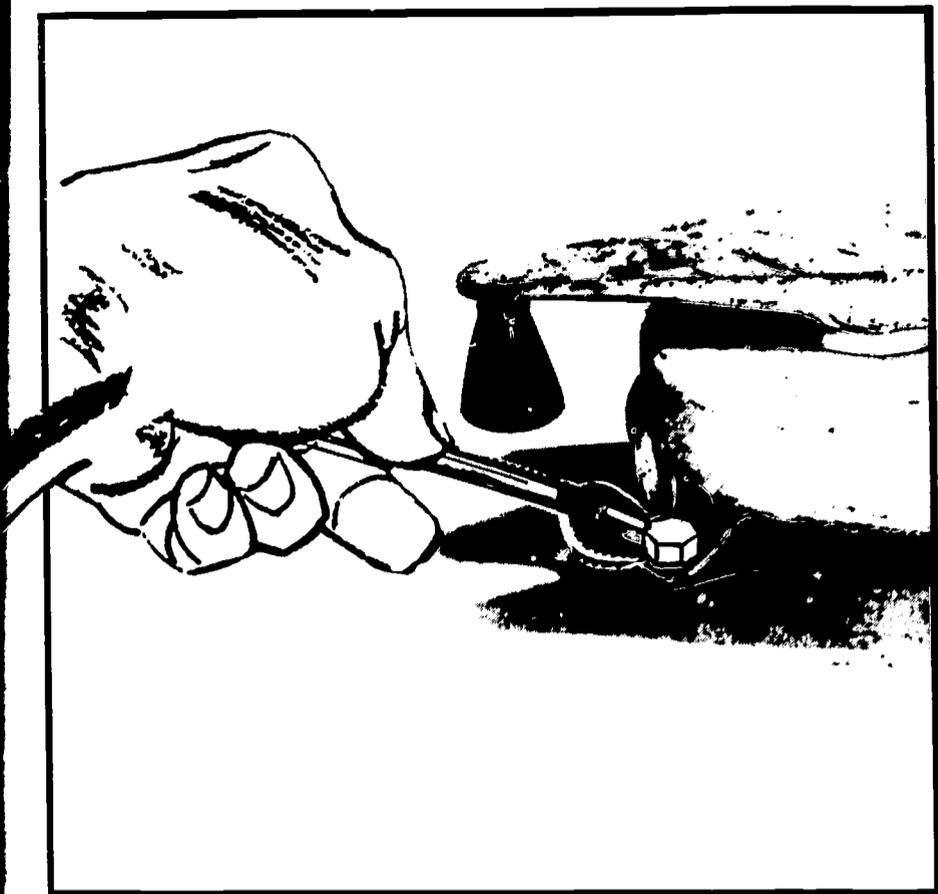

FIGURE 43. Removing the windup-starter assembly from the engine.
2. Remove the starter assembly from the engine (Figure 43).